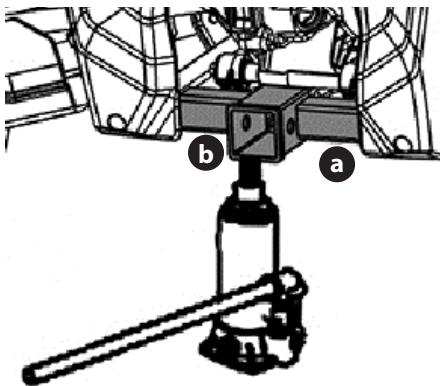

Figure 17
2. Jack the rear of the utility vehicle only after placing a wooden block under the right (a) and left frame tube (b) for securing the engine and then supporting it. Do not apply jack pressure on the steel plate directly under the engine (Figure 17).